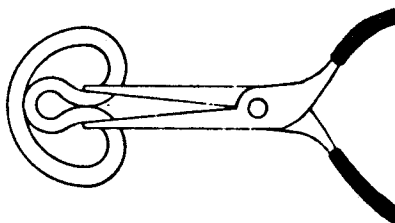

Figure E-5. Rod Seal Installation
6. Position the head with the rod wiper pocket up. Grasp the dynamic rod seal (No. 3) with the needle-nose pliers (Figure E-5)